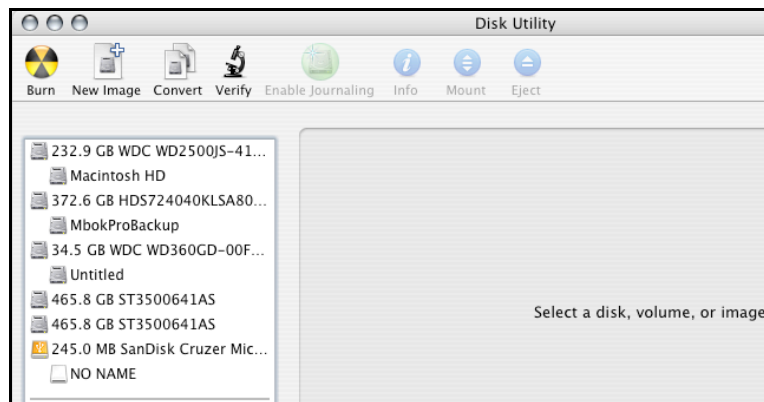

Figure 6: Example hard drive listing
2. Review the list of hard disks shown in *Disk Utility* (see Figure 6). Drives that have been formatted should have a volume name below their listing. New, unformatted disks typically have no volume name. Carefully select the hard disk you wish to format.